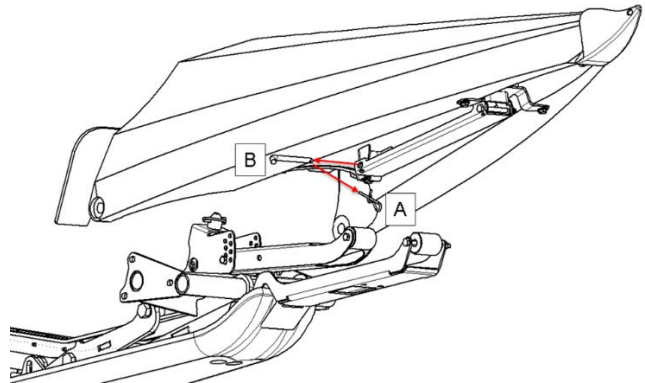

Figure 4.50: Adjustable Skid Shoe Stalk Deflector
1. Remove locking hairpin (A) and rear slide securement pin (B) shown in Figure 4.50.